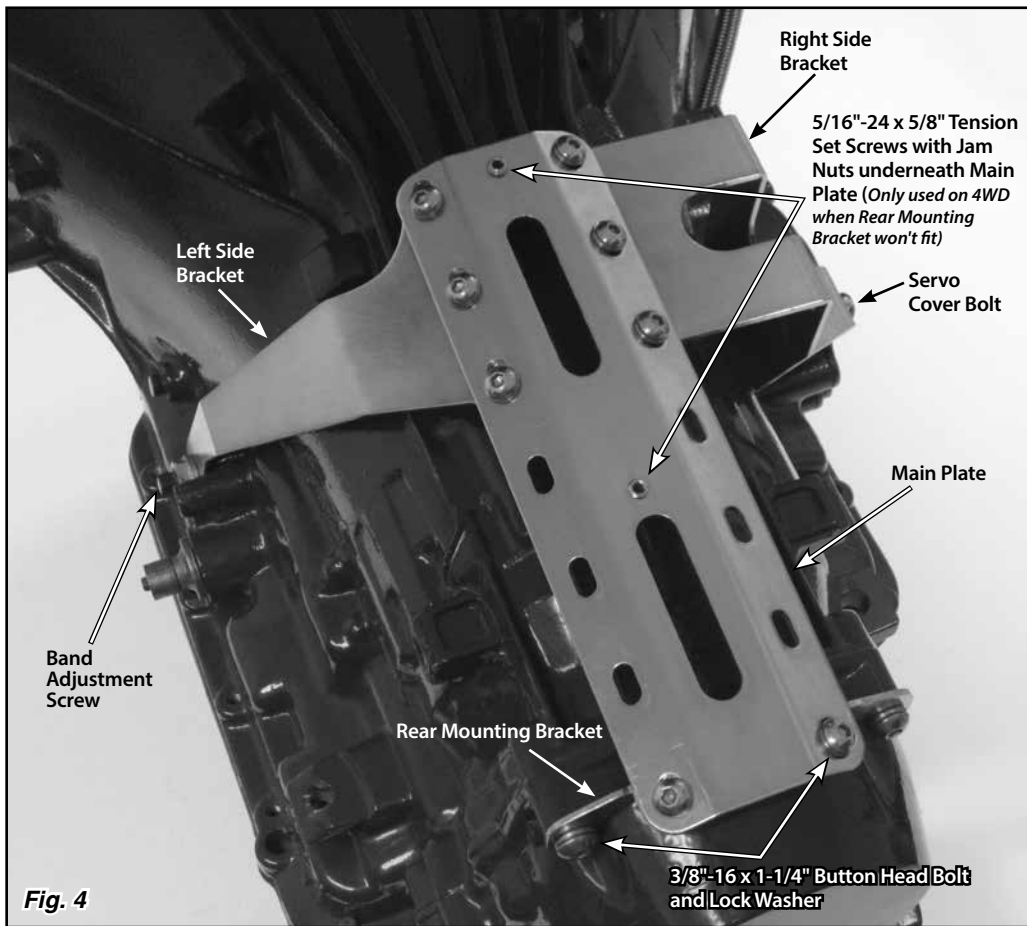

Fig. 4
Step 6: Place a small amount of silicone sealer around the band adjustment screw. Install the mounting bracket assembly onto the transmission by first placing the left side bracket over the band adjusting screw. Then, position the right side bracket over the servo cover bolt hole, and loosely install the servo cover bolt you removed earlier. Install the original lock nut back onto the band adjustment screw, but do not tighten yet. **Again, be sure that you do not change the adjustment!** **Fig. 4**
On 4 wheel drive applications without the rear mounting bracket, tighten the set screws in the main plate last (if you are using the rear mounting bracket, you do not need set screws in the main plate). **Fig. 4** Then, tighten the jam nuts on the set screws underneath the main plate.